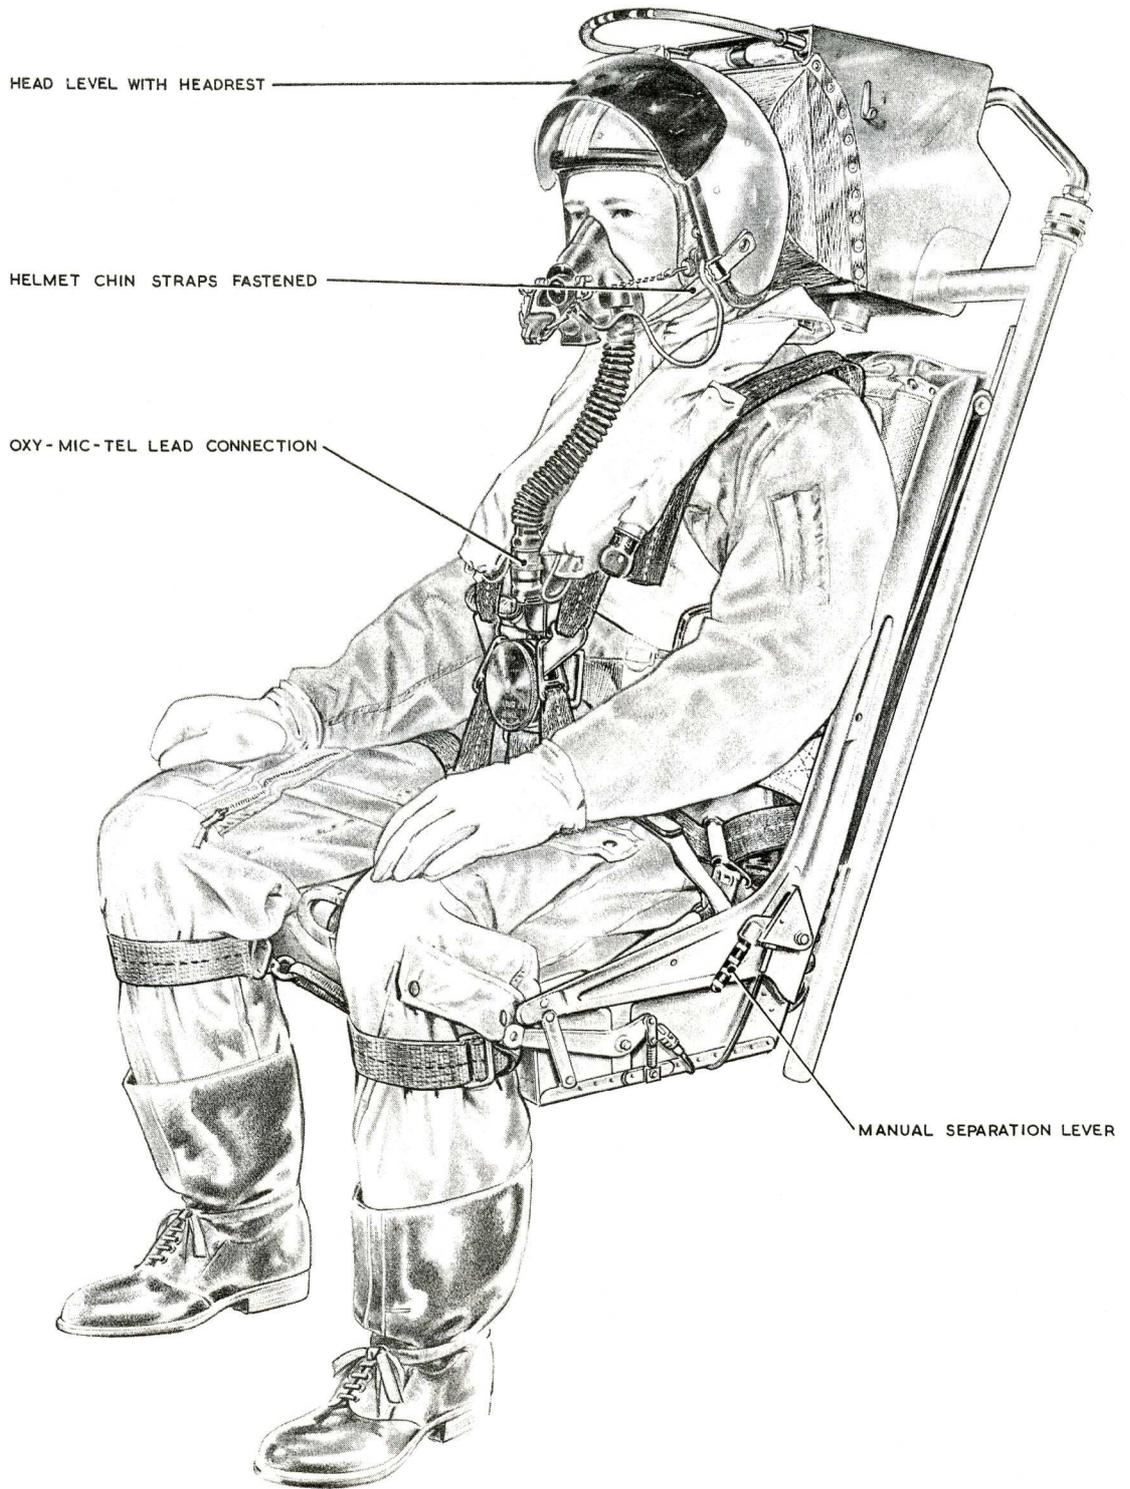

Fig. 3. The seat occupied (1)
15. The strapping-in procedure is as follows (refer to fig. 3 and 4): —